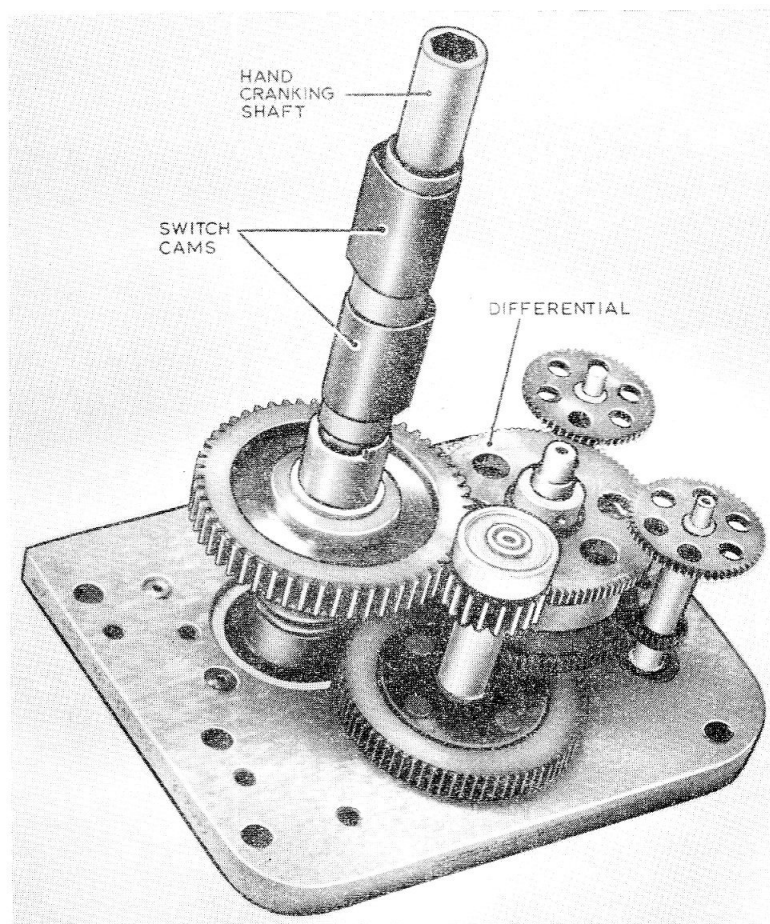
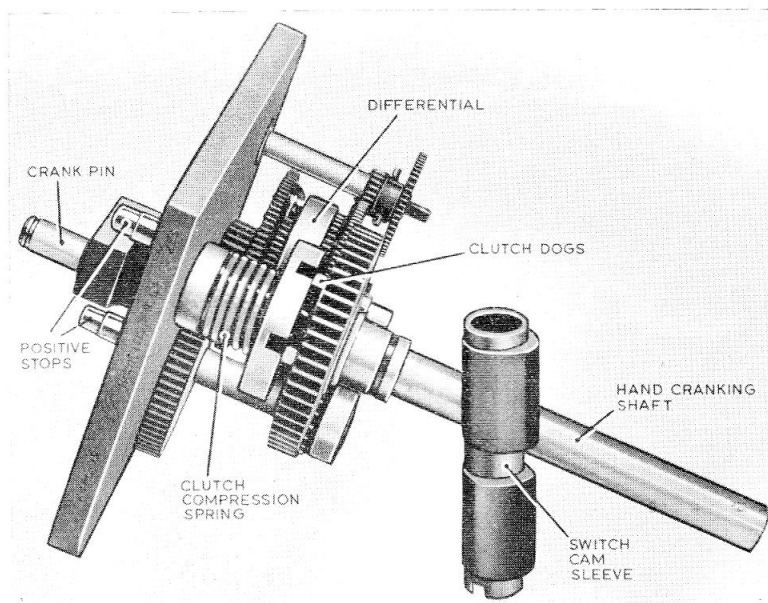

Fig. 3. Gearbox
Fig. 5. Hand cranking clutch
2. The actuator is driven by two D.C. motors linked mechanically by a differential, and driving a crankshaft, through a reduction gear, and clutch (fig. 3). The crankshaft
7. Each motor drives one side of the differential, the output from the differential driving further gear reduction to the dog clutch on the crankshaft. The crankshaft operates the ram, the switch cams, and when the clutch is disengaged, it operates the hand cranking mechanism (fig. 3 and fig. 5).
10. Positive stops are fitted to prevent the ram overrunning if there is a switch failure. These are also used for positioning the ram when hand cranking is used. They are in the form of two studs, a predetermined distance apart, which limit angular movement of the crankshaft (fig. 5).
15. The clutch is mounted on the crankshaft to enable the ram and camshaft to be moved without moving the motors, when an electrical supply is not available. The clutch plates have four dogs arranged so that the clutch can only re-engage 180° after it has disengaged. The clutch is held in engagement by a compression spring on the crankshaft (fig. 5).